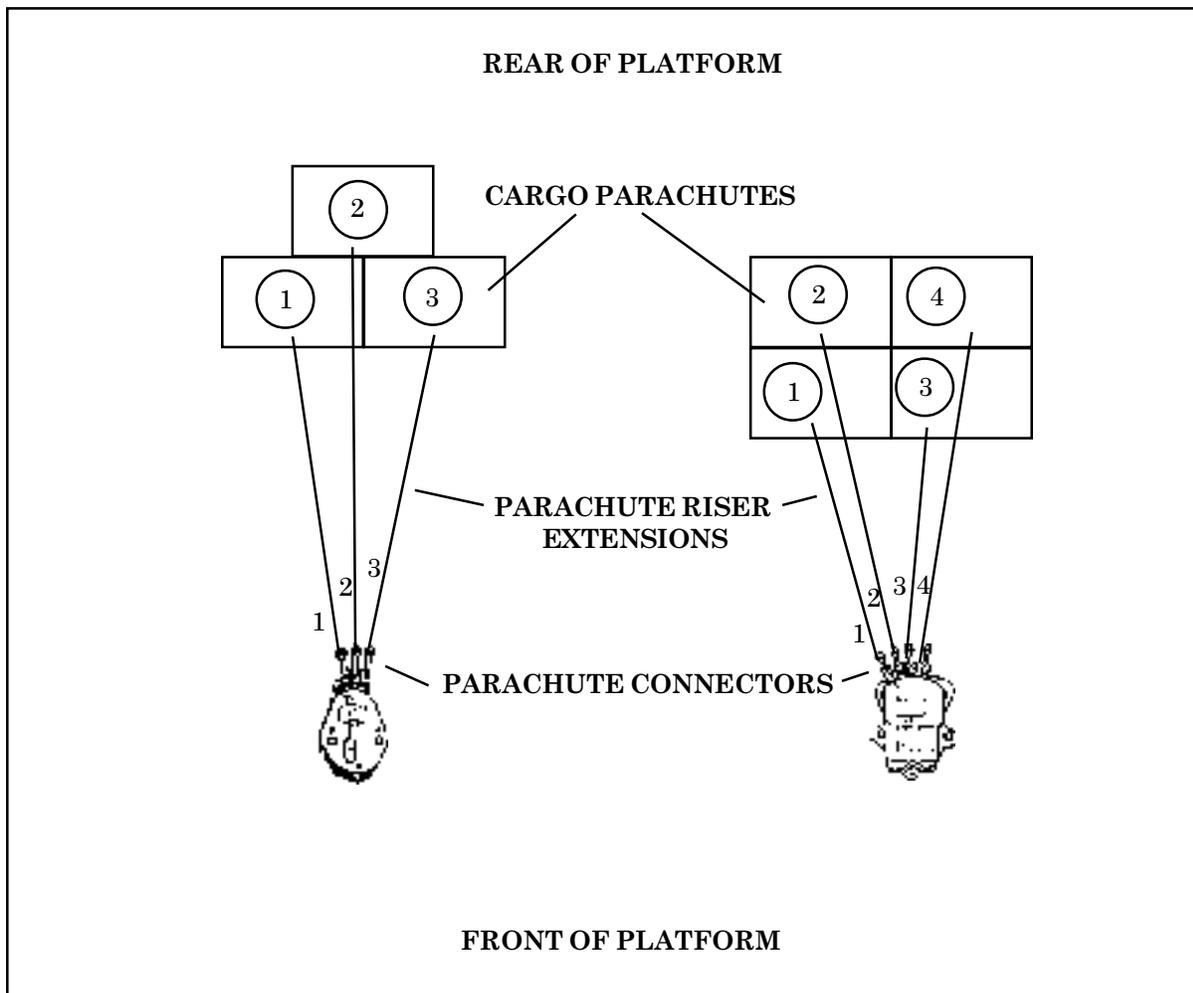

Figure 3-63. Three and Four Parachute Riser Extensions Attached to the Parachute
c. Installation For Airdrop. Instructions for installing the cargo release are shown in Figure 3-63.
3-26. Lay the parachute release on top of the load with the bolt end of the parachute connectors toward the cargo parachutes. Bolt the parachute riser extensions to the parachute connectors of the M-1 or M-2 parachute releases as shown in Figures 3-63 through 3-65.